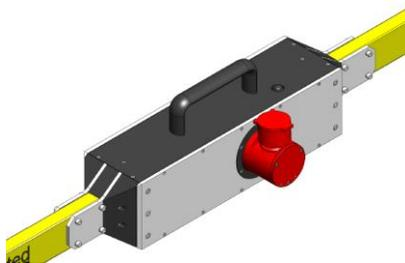

Figure 3
- Rotate the black lens cover to reveal the optical lens before attempting to take any readings (Figure 3)